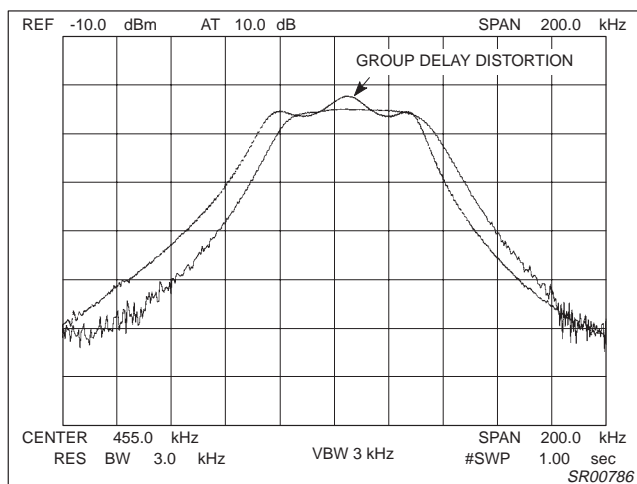

Figure 4. Group Delay Distortion
Improved impedance matching yields better sensitivity performance because matching of the 83.16MHz SAW filter suppresses unwanted group delay distortion. The response of the 83.16MHz SAW filter is shown in Figure 4. When the filter response is flat, the SAW filter is matched; when it is not, group delay distortion, represented by the hump, is apparent (Figure 4).
To double check the matching, remove the 2nd-IF filter from the mixer-out of the SA606 and check the frequency response for any group delay distortion. Figure 4 shows a matched SAW-filter response (flat curve) and a poorly matched response that has group delay distortion.
- Set the Spectrum Analyzer sweep time to 1 second, set the center frequency to the 2nd IF frequency (455kHz), and probe Pin 20 with a FET probe. The results should look like the flat response in Figure 4.